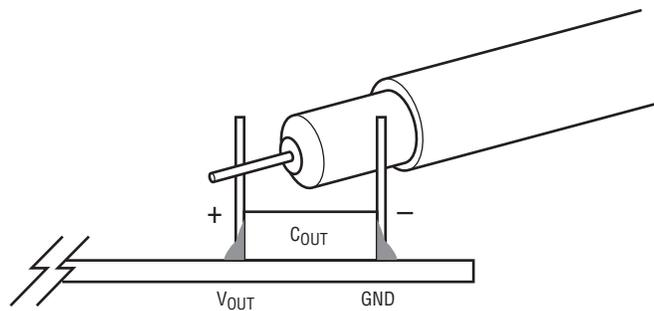

Figure 4. Measuring Output Voltage Ripple
**NOTE.** When measuring the input or output voltage ripple, care must be taken to avoid a long ground lead on the oscilloscope probe. Measure the output voltage ripple by touching the probe tip directly across the C13 or C39. See Figure 4 for proper scope probe technique.
An accurate ripple measurement may be performed by using the configuration in Figure 4 across C13 or C39.